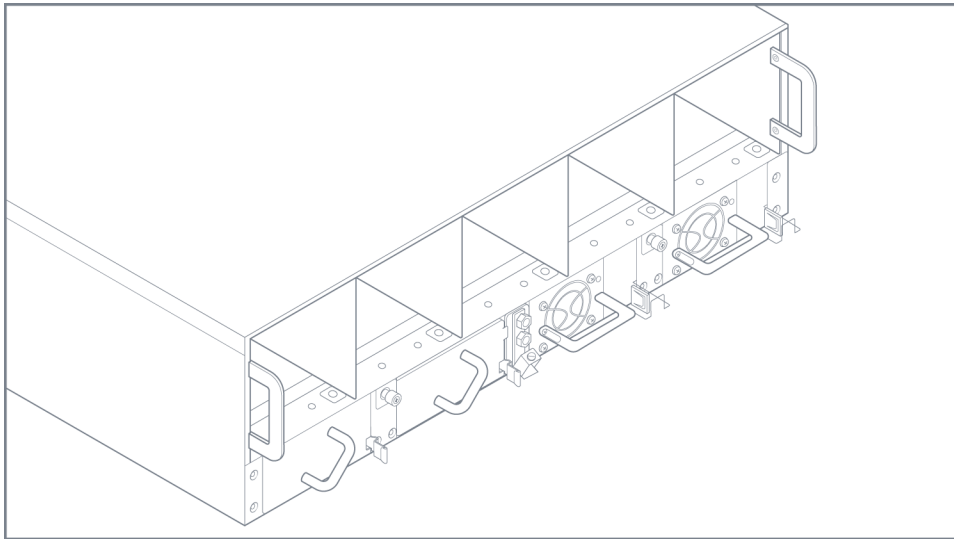

Figure 13 Fan Tray Inserted
3. Slide the fan tray in until it is flush with the chassis rear and will not slide in any further as shown in Figure 13 Fan Tray Inserted.